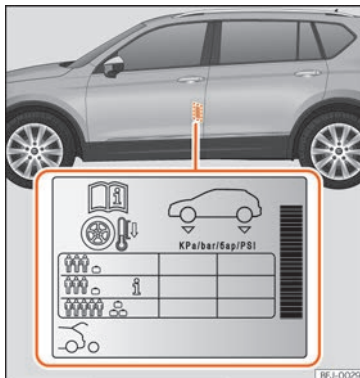

Fig. 319 Location of the tyre pressure sticker.
- Adjust tyre pressure to the load being carried by the vehicle »» **Fig. 319**.
The tyre inflation pressures are listed on a sticker on the rear of the front left door frame »» **Fig. 319**.
Depending on the vehicle, tyre pressure can be adjusted to medium load to improve driving comfort [tyre pressure **i** »» **Fig. 319**]. When driving with comfort tyre pressure fuel consumption may increase slightly.
The tyre pressure must be adjusted according to the load the vehicle is carrying. If the vehicle is going to carry the maximum load, the tyre pressure should be increased to the maximum value indicated on the sticker »» **Fig. 319**.
»» Fig. 319.
- The driver is responsible for ensuring that all of the vehicle tyres are correctly inflated to the right pressure. The recommended tyre pressure is indicated on the label »» Fig. 319.
- When the tyres are cold, tyre pressure should be that indicated on the label »» Fig. 319.